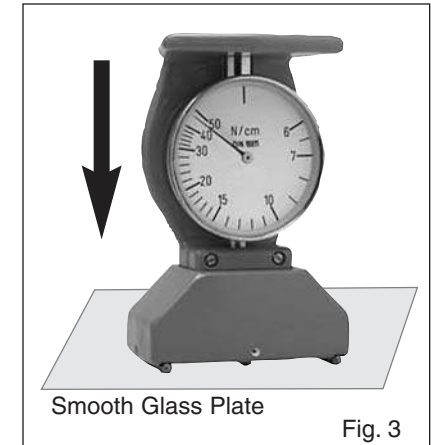

Fig. 3
1. To confirm the calibration, place the STM-50 on a glass plate and press down (see Fig. 3).